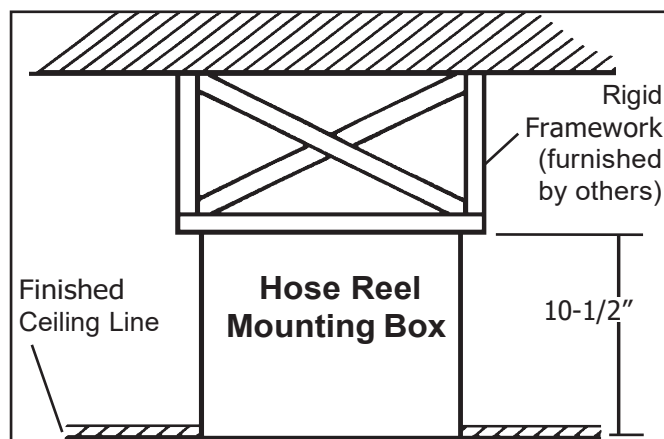
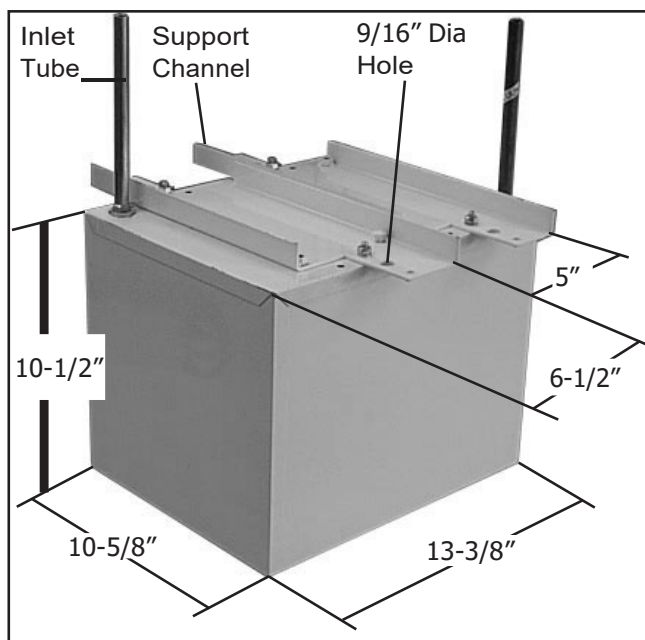
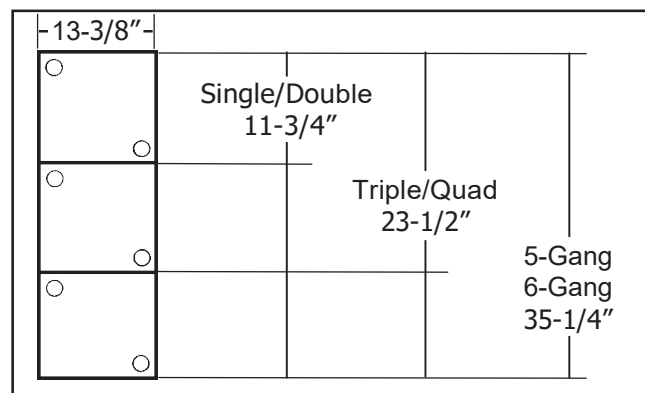

Figure 5
Figure 6
Figure 7
1. Construct rigid framework to support mounting box. Framework must place bottom edge of box flush with finished ceiling line (Figure 5). Figure 6 shows required rough ceiling openings and single box dimensions. Figure 7 shows required dimensions for gang mounting of boxes. This is important for proper alignment of cover plates when gang mounting several hose reel assemblies.